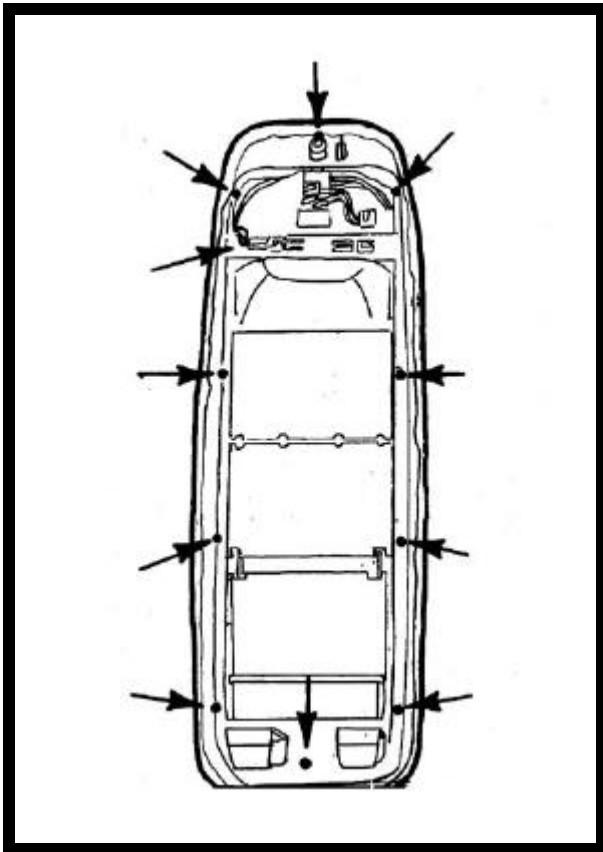

FIGURE 2
2. Turn console over and place on a covered surface. Remove plastic molded assembly from cloth covered trim ring. Using a 7/64" drill bit, drill through the center of the (10) ten plastic pins which secure console together. See Figure 2. **CAUTION: Do not drill deeper than 1/2" or you may drill through console in some areas.** Using a small chisel, carefully remove the head of the (10) ten plastic pins. Unsnap the wiring connector secured to clip on trim ring and separate console from trim ring. See Fig. 2.